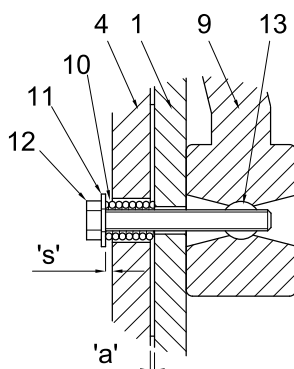

Figure 72 – Hoist Brake Hand Release
- Insert the compression springs (10) into the holes of the armature plate (1).
- Fit the washers (11) onto the hand release fixings (12) and assemble through the compression springs (10) and the stator (5).
- Fit the barrel nuts (13) into the holes provided in the hand release (9).
- Position the hand release (9) over the stator and tighten the hexagon screws (12) into the barrel nuts (13) until the armature plate moves towards the stator.
- Adjust the gap between the armature plate and the stator using the hexagon hand release screws (12) to achieve a dimension ('s' + 'a') (see Figure 72). Example 1.8mm (1.5+0.3) for brake size 3. Check the dimension at three positions around the circumference.
- Fit the complete brake assembly onto the hoist and tighten the assembly screws (7) to the value shown in the table (5.10.2).